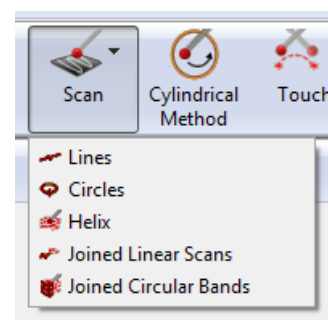

Figure 1 – new scan options
- Blended scans – Blended scans are now supported for inner cylinders (using circles or lines) and cones (using circles) (figures 1 - 4). They are also supported for blade sweep programs created using APEXBlade™. This allows new measurement strategies to be used which can increase the speed of data collection.